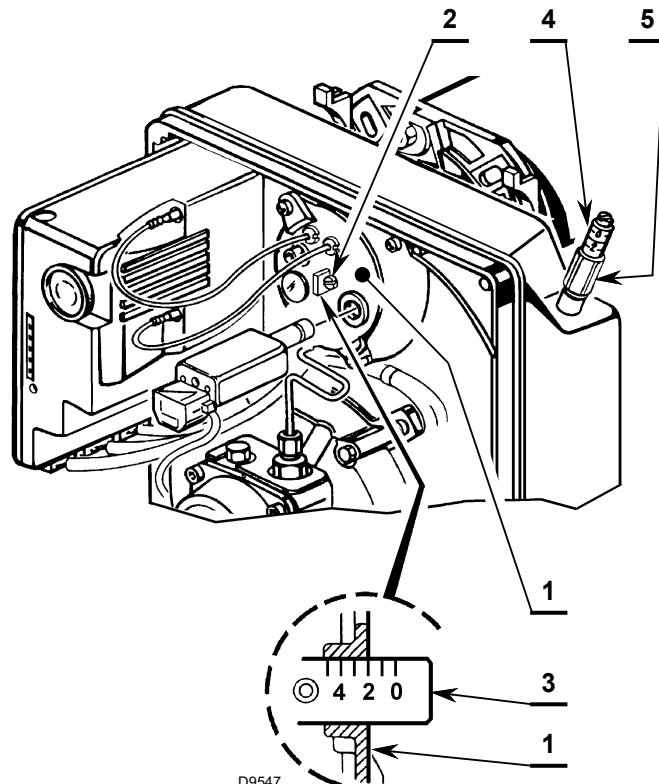

Fig. 11
- turn the adjustment screw 2)(Fig. 11) clockwise or anti-clockwise until the notch on the regulating rod 3)(Fig. 11) lines up with the outer surface of the nozzle-holder assembly 1)(Fig. 11).
- Loosen the nut 5)(Fig. 11) and calibrate the damper using the screw 4)(Fig. 11).